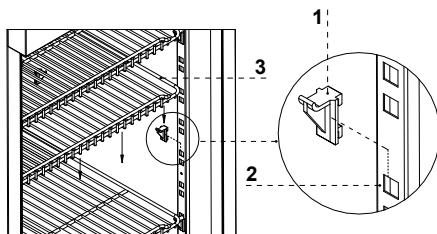

Fig. 5 Condensate tray (view from the back of the device)
- IV. Insert the tray Fig.5 (p.17) or condensate container Fig.6 (p.17) under water outlet hose. Type of cabinets: "Ewa" and "Jola" on the aggregate do not have enough space for condensate container, hence it is essential to place the tray directly under the cabinet, placing it on the floor, from the back of the device. In case of problems with inserting the tray under the cabinet, it should be lifted by means of the levelling feet.
If the device is not equipped with automatic condensate evaporation, it is essential to remove the condensate from the tray Fig.5 (p.17) or the condensate container Fig.6 (p.17) when it is filled. Number (frequency) of condensate removals depends on conditions of exploitation (air humidity, door opening frequency).